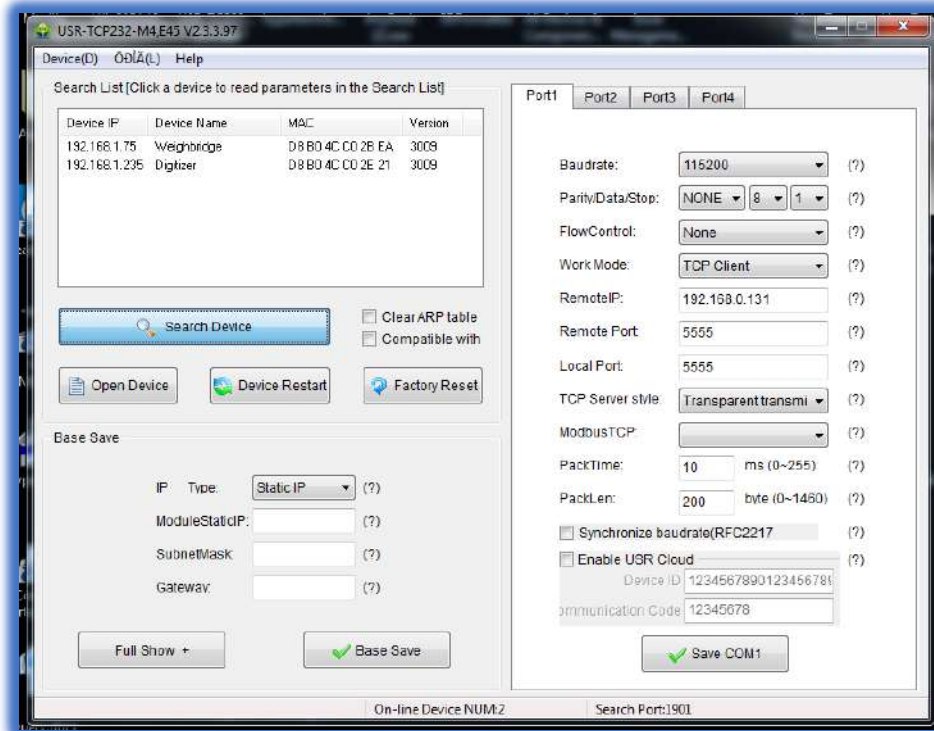

Figure 1. Search Devices (Default Parameters)
- First Search the device (**Figure 1**) and set the parameters as described.